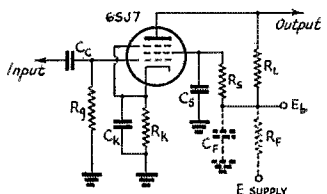
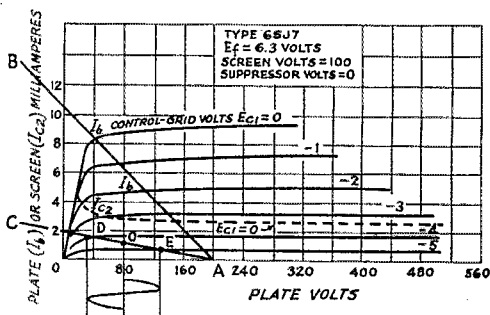

Fig. 3 — Pentode resistance-coupled amplifier circuit.
Fig. 4 — Plate-voltage vs. plate-current characteristic curves for the Type 6SJ7 pentode tube.
for a selected plate-supply voltage. As an example, in the circuit of Fig. 3 a supply voltage of 200 (E_b) is assumed. Since the maximum value of 200 volts is applied to the 6SJ7 plate only when no plate current flows, one point on our load line is certain to be at point A, shown in Fig. 4, where the plate current is zero and the plate voltage 200. From point A, load lines of various slopes may originate; the lower the plate load resistance, the steeper the slope. Since, as in the previous example, we are only interested in obtaining a large plate-voltage variation with a minimum variation in plate current, the slope of our load line should be as far down on the curves as possible and still accommodate the complete grid swing without running into the distortion region. Therefore, two typical load lines were drawn on the curves shown in Fig. 4. The load line AB represents a load resistance of 13,000 ohms which provides for a 5-volt grid signal without distortion, while load line AC represents a load of 110,000 ohms which provides for a 1-volt signal. Load-line AC would be the most common, since the 6SJ7 is a high-gain pentode which is designed to amplify small input signals to a much higher level.
11) The total plate-voltage swing as determined by the perpendiculars of Fig. 4 is $130 - 30 = 150$ volts. From the ratio, $\frac{106,400}{110,000}$, we know that 97 per cent of the output voltage or 97 volts peak-to-peak appears across the plate resistor. Since a 1-volt peak-to-peak signal is applied at the grid, the stage gain is $\frac{97}{1} = 97$.